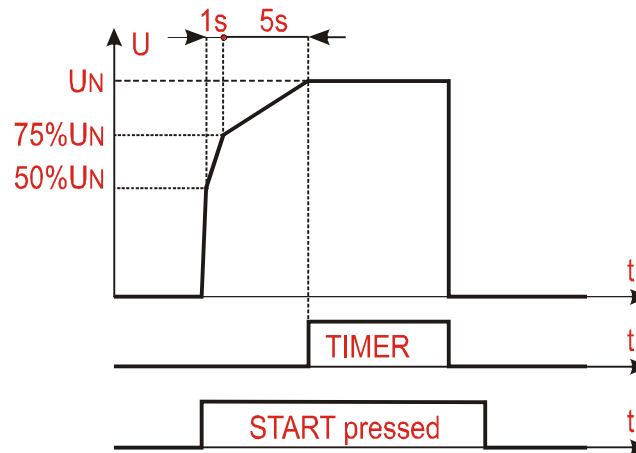

Fig. 38 : DIELECTRIC test in 50% Ramp mode
- **50% Ramp mode (double ramp)** → When the **START/STOP** key is pressed, the test voltage rises up to 50% of the nominal voltage then it takes 1s to reach 75% of the nominal value then it uses another 5s to reach the nominal value. It is subsequently maintained for a time defined by a programmable timer (see Fig. 38)